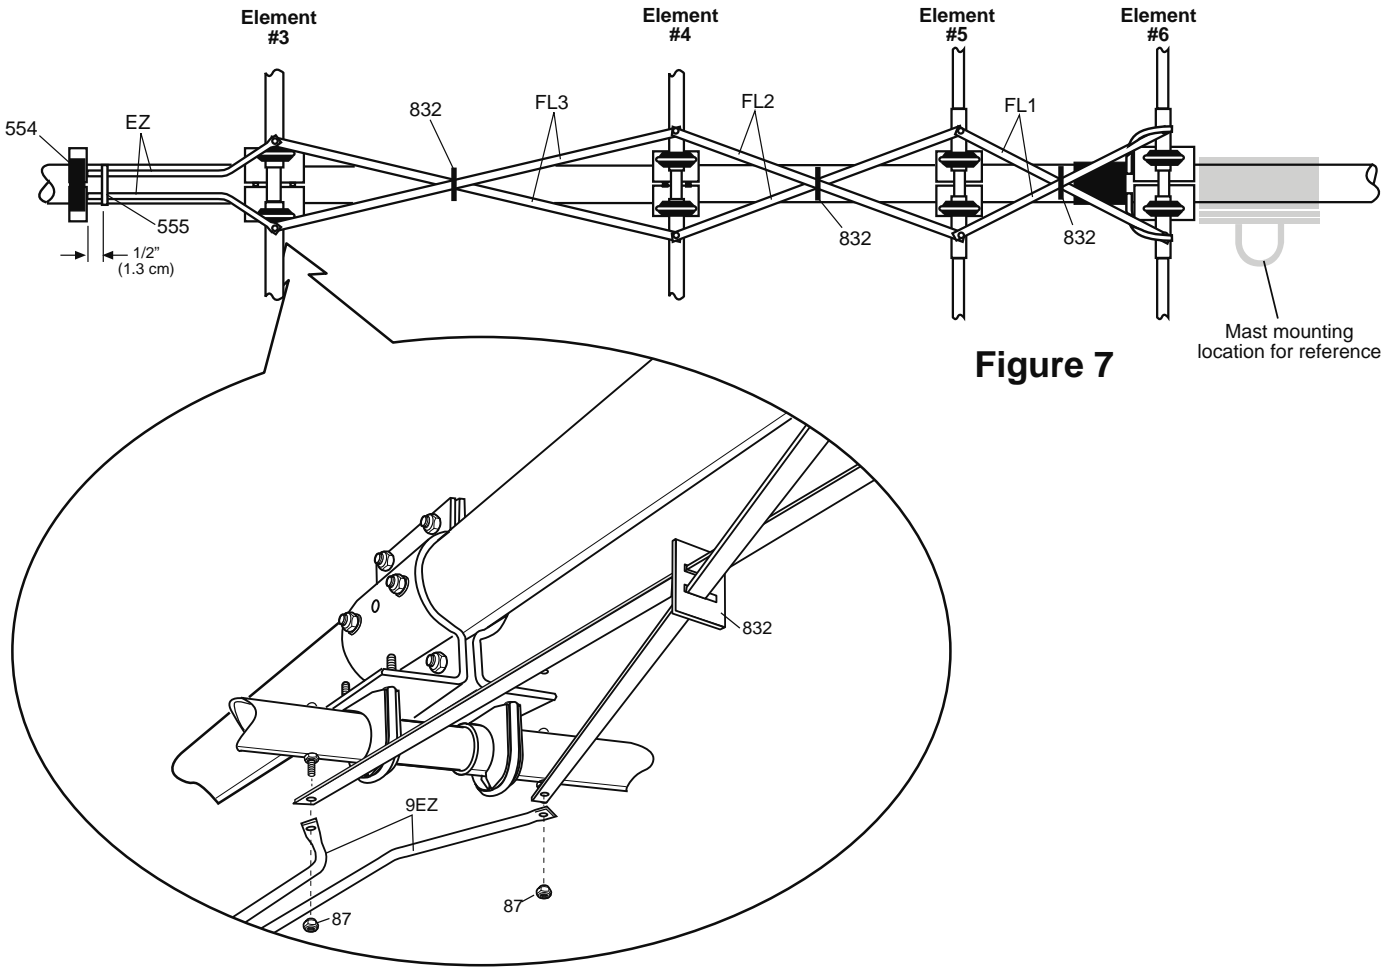

Figure 7
The feed system consists of 3 sub-assemblies. They are the feed-straps, the tuning tube insulator and the matching network. Figure 7 illustrates the 3 pairs of feed-straps (FL1, FL2, FL3). Refer to the Feed System Subassembly Parts List for the hardware required to install the straps. Slide a feed-strap insulator (832) on to each pair of feed-straps to space and insulate the straps. Elements may be rotated slightly during feed strap attachment. Tighten Cush-A-Clamps on Elements #3, #4, #5 and #6.
Reference Figure 7 and position the Tuning Tube Shorting Strap (555) 1/2 inch from the tuning tube insulator. Adjusting this strap will not have a significant effect on the VSWR of the X9. Tighten strap screws.